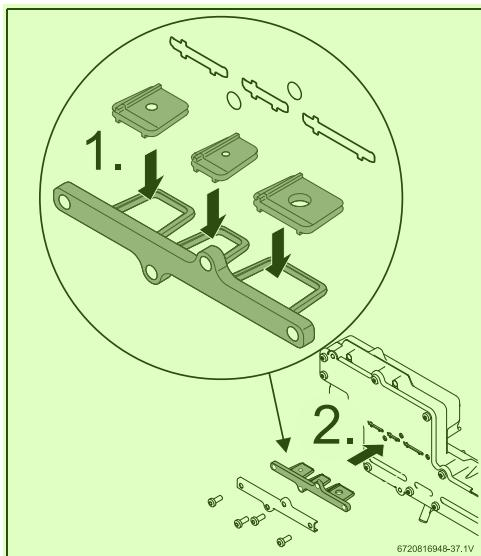

Fig. 49 199kBTU appliance gas conversion kit **4**
- ▶ The 3 restrictor plates should be pre-assembled onto their tray, but if loose in box, follow installation instructions, as shown in Figs. 49 and 50 [1].
- ▶ Insert the LP conversion plate in the appropriate location shown in Figs. 49 and 50 [2].
- All three flow restrictors and seal must be assembled **2** according to the Fig. 49, to assure correct appliance performance.